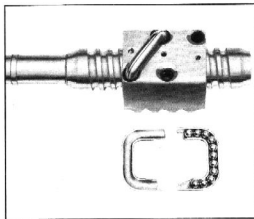

Fig. 5—Installing Balls in Nut and Guide
5. Lay one-half guide, groove up, on the bench, and place the 10 remaining balls from the count container in it (see Fig. 5). Close the guide with another half, hold the two halves together, and plug each end with grease, so that the balls will not drop out. Push the guide into the guide holes of the nut with the fingers, thus completing one circuit of balls. If the guide does not push all the way down readily, it may be tapped into place lightly with the wooden handle of a screwdriver.